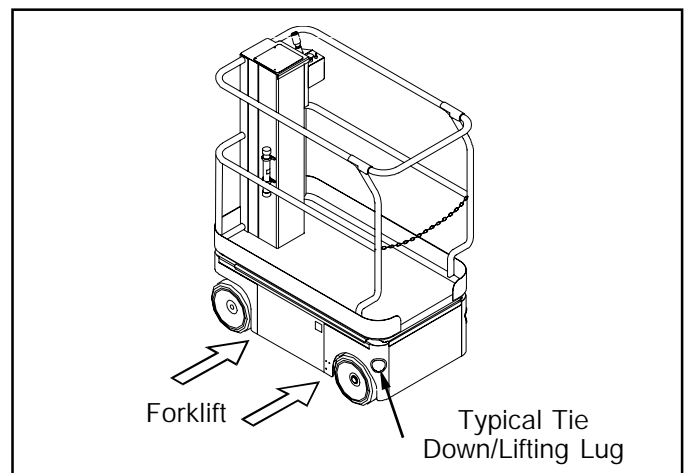

Figure 5: Transporting Work Platform
Forklift from side by lifting under the Chassis (Figure 5).
Secure straps to chassis lifting/tie down points only (Figure 5).
2. Secure the work platform to the transport vehicle with chains or straps of adequate load capacity attached to the chassis lifting/tie down points (Figure 5).